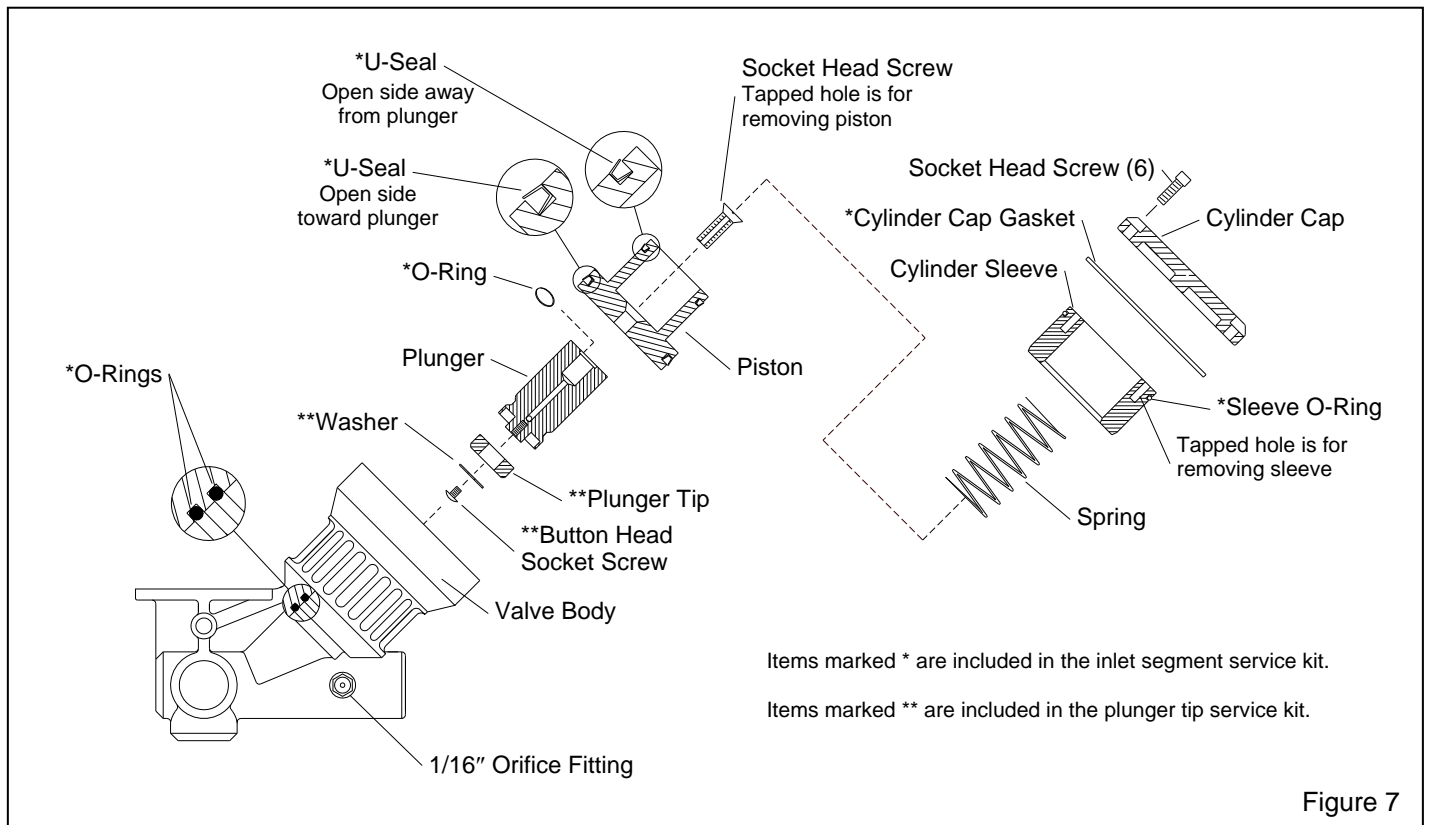

Figure 7
**6.3 Millennium Valve Inlet Segment, Ref. Figure 7.**
**6.3.10** Place the u-seals into the grooves on the piston, the open side of the large seal faces the plunger, and the open side of the small one faces away from the plunger, as shown in Figure 7.
**6.3.15** If fittings on the body were removed, make sure the 1/16" orifice fitting is threaded into the port, as shown in Figure 7.